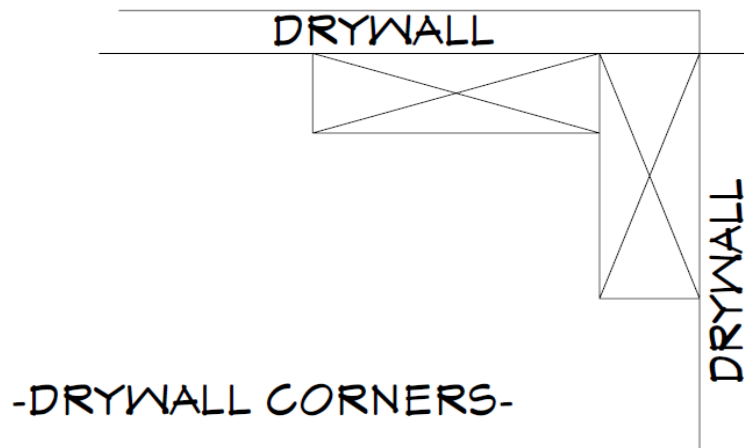

Figure 14-1. Outside Corner Installation of Sheetrock.
13. On outside corners of walls, install a piece of sheetrock on the first wall so its corner side edge is flush with the outside edge of the corner stud. Score and snap (or saw-cut) this piece flush to the corner. (An acceptable tolerance is a maximum of ¼" short of the corner, but do not allow the piece to extend past the outside edge of the corner stud.) Form a recessed corner by installing the second sheetrock piece on the adjacent wall so its edge is flush with the other outside edge of the corner stud. The outside corner ends of the sheetrock should not overlap the corner (see Figure 14-1).